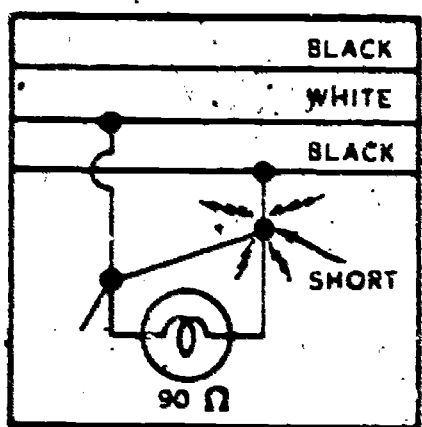

Figure 40. Direct Short
**Direct Short.** A direct short is caused by a positive lead coming in contact with a negative lead, or a black lead touching a white lead (in the case of a single-phase system) and there is not enough resistance between them. As you have already learned, this type of trouble causes blown fuses or tripped circuit breakers. (See figure 40.)